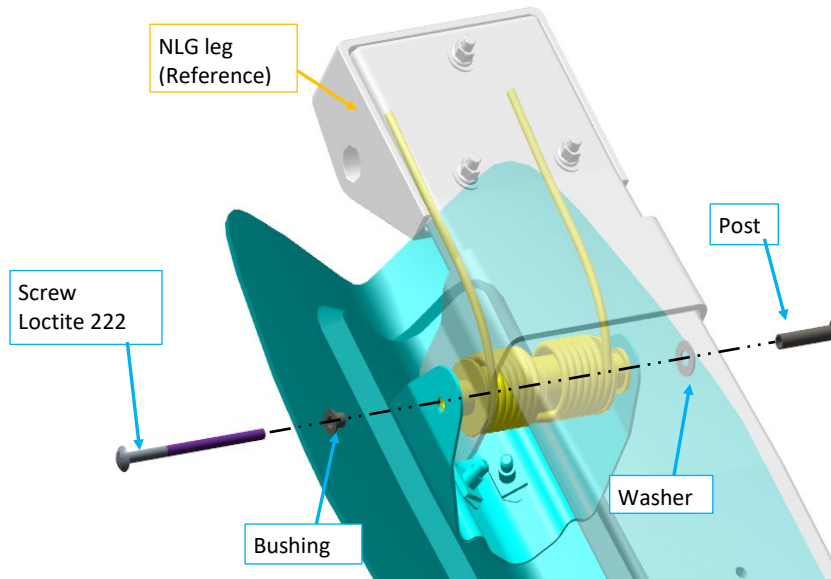

Figure 1 Remove Forward NLG Door
4. Remove screw retaining NLG Door as shown in Figure 1. Retain removed hardware for reinstallation.
16. Reinstall NLG door using retained hardware, see Figure 1.